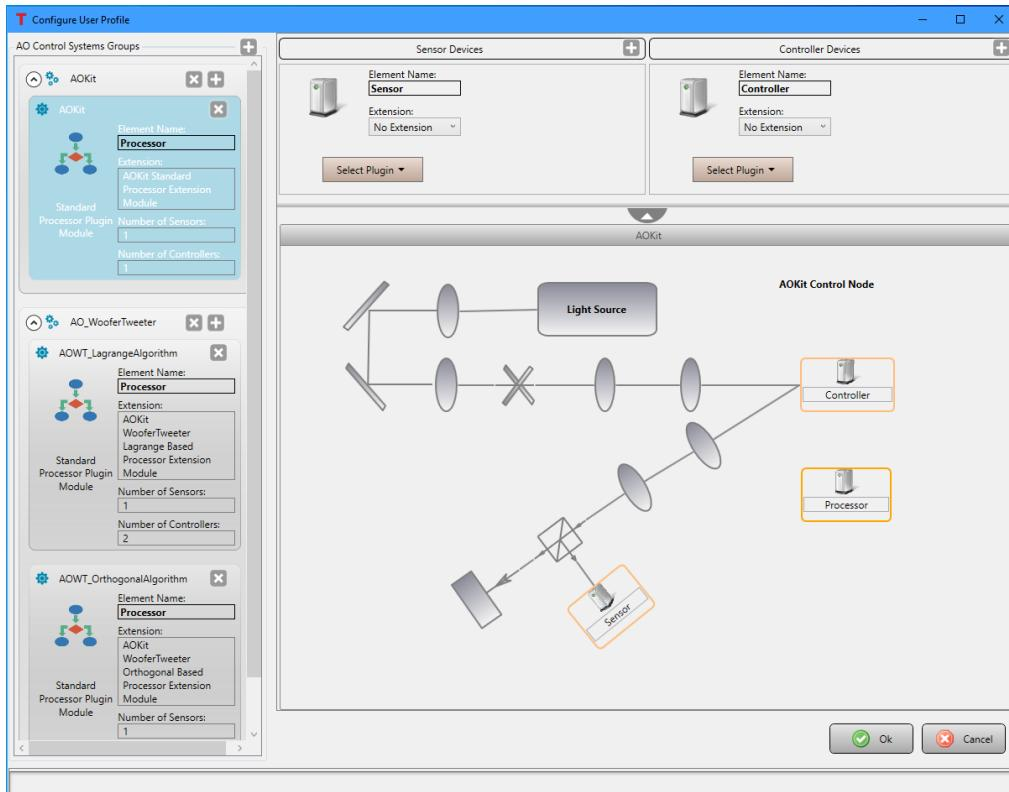

Figure 71 This window appears after clicking the **Configure** option within a highlighted User Profile.
3. To assign the devices to the control systems, click the **Configure** button within the highlighted User Profile. This will open the **Configure User Profile** window shown in Figure 71.